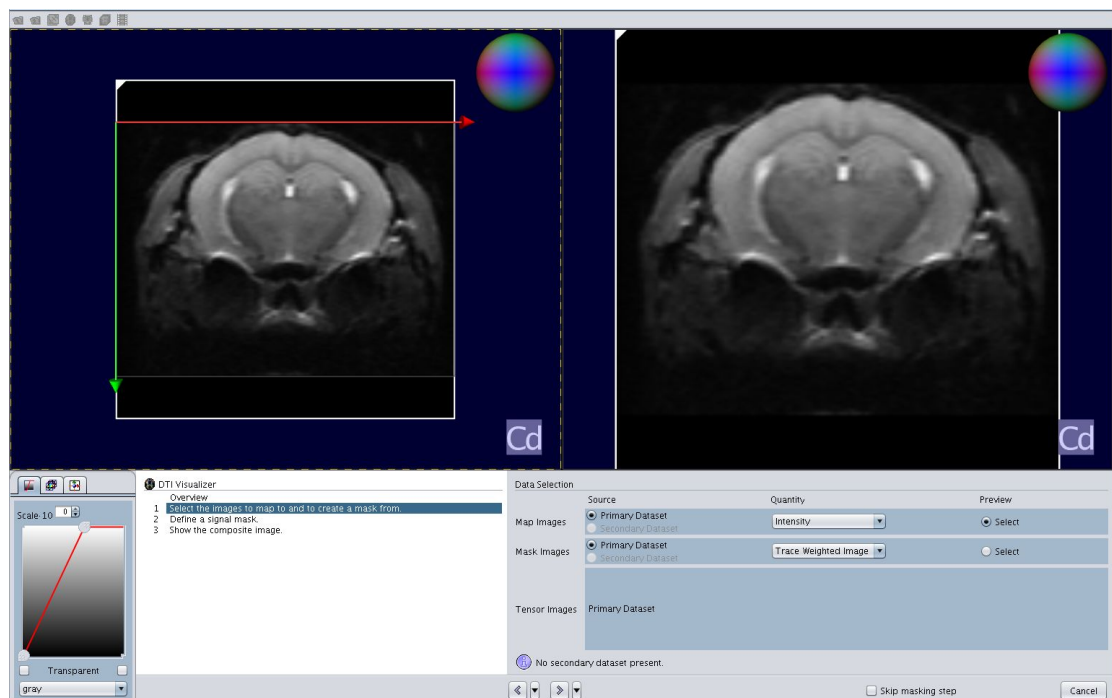

Figure 2.77: DTI Visualizer: DTI data selection for mapping and masking the images
- **Step 1:** Select the images to map and from which a signal mask should be created (see [Figure 2.77 \[531\]](#)).